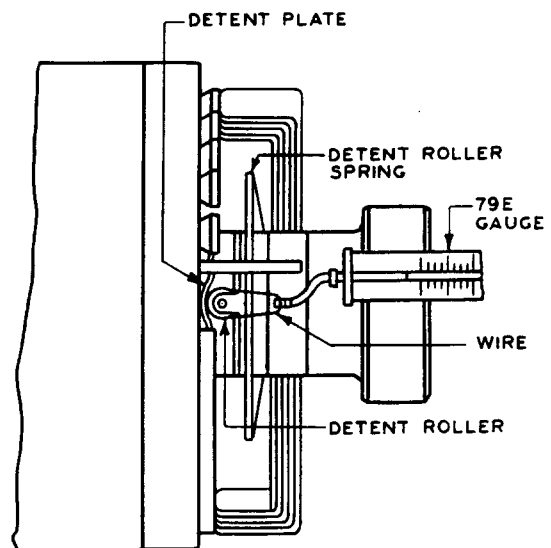

FIG. 7
(1) Loop a piece of wire under the bend of the detent roller spring at the outer end of the roller (See Fig. 7). Insert the end of a 79E gram pressure gauge in this loop and pull in a direction perpendicular to the horizontal axis of the detent plate until the roller just leaves its seat in the detent plate. The reading of the gauge is the pressure of the roller against the detent seat. To adjust this pressure loosen the locknut on the detent adjusting screw (Fig. 6) with a 43 wrench. Turn the detent adjusting screw (using 43 wrench) in a clockwise direction to increase the pressure and in a counter-clockwise direction to decrease the pressure. After obtaining the correct pressure, tighten the locknut securely being careful not to disturb the position of the adjusting screw.